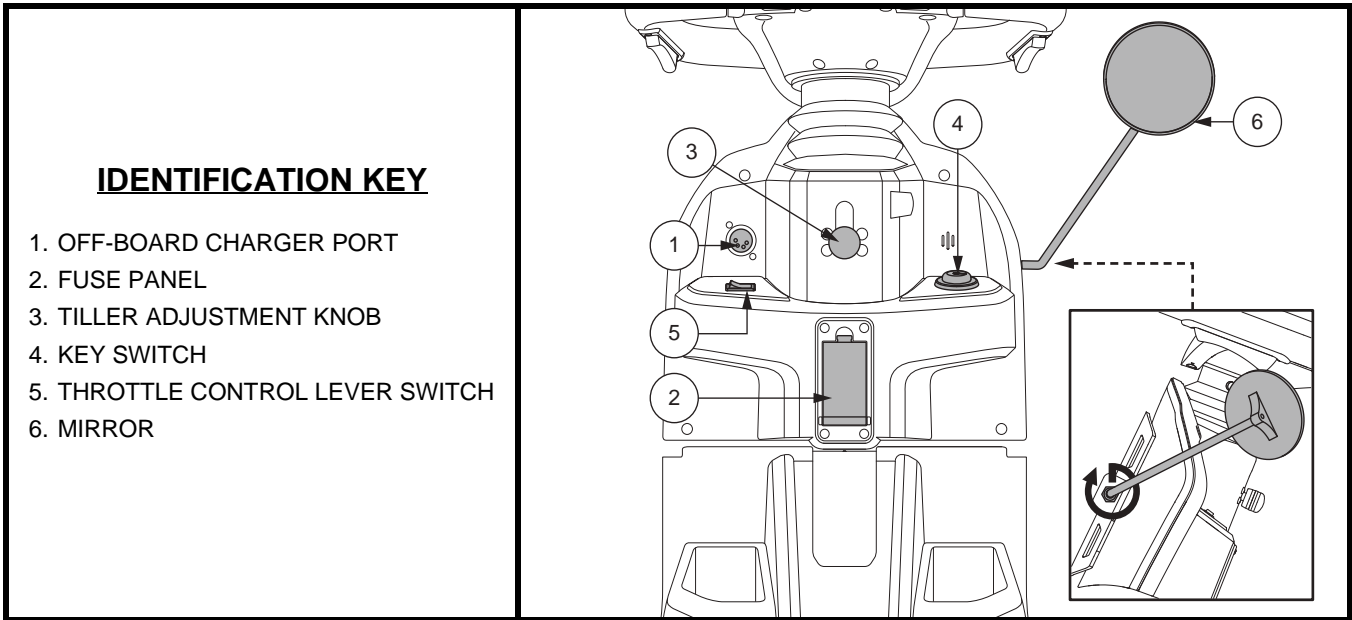

Figure 4. Lower Tiller Components
The off-board charger power lead plugs into this port during battery charging. The off-board charger port will be located on the tiller. See figure 4.
- Insert the key into the key switch and turn it clockwise to power up (turn on) your PMV. See figure 4.
This switch dictates which throttle control lever (left or right) will function. See figure 4.